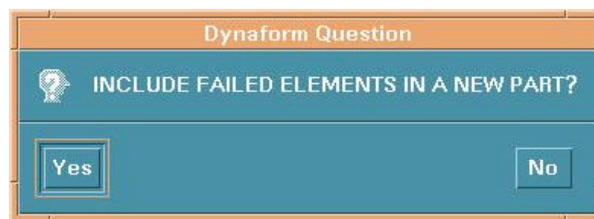

Figure 6.6.6 Include Failed Element Question
2. If there are failed elements, a DYNAFORM Question window appears, see Figure 6.6.6.
3. If the user selects YES, eta/DYNAFORM will prompt to include the element in new part, see Figure 6.6.6.